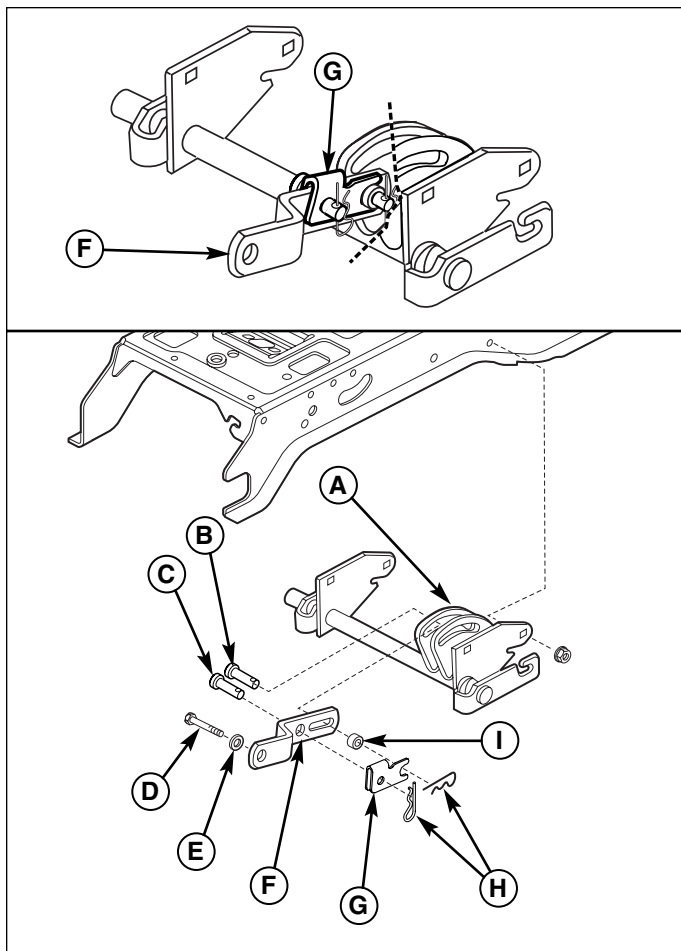

Figure 9. Install Lock Plate - Manual Lift Models
1. Rest the back of the lock plate (G, Figure 9) against the spacer (I) and rotate until it lines up with the hole in the lift bar (F).
2. Secure the lock plate (G) to the lift bar (F) using a new flat head pin (C) and hair pin clip (H).